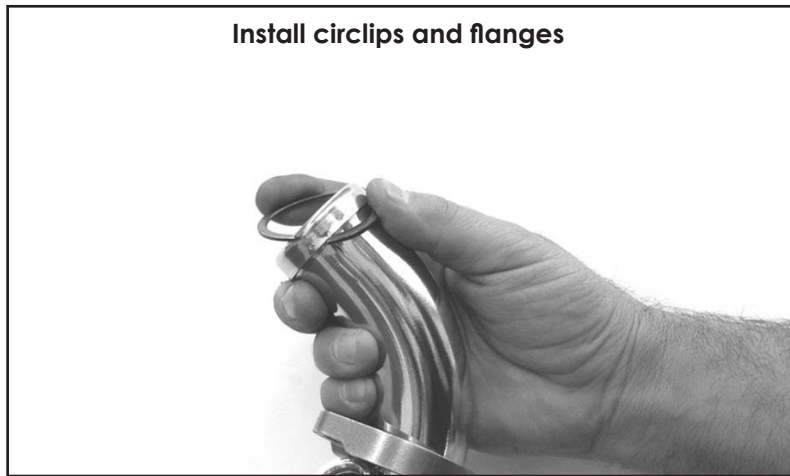

FIGURE 6
7. Use the nut plates and 5/16" x 5/8" flange bolts (supplied) to attach the pipes to the bracket (**Figure 6**). Do not tighten at this time.